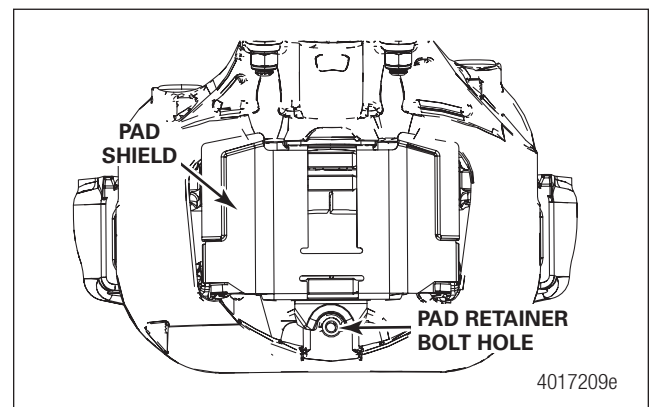

Figure 6.22 Pad Shield and Pad Retainer
- Where used, place the shield on the caliper before installing the pad retainer. Inspect the shield for damage and replace if necessary. Position the pad shield so that the pad retainer bolt hole is centered in the crush section of the shield and with the bent tabs against the tappet plate and the ends of the shield resting on the caliper. Figure 6.22.